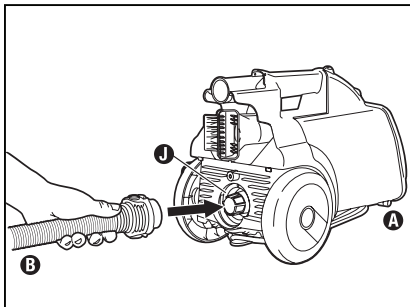

Fig. 9
**Step 2:** Detach hose (B) from front of canister (A) and attach to the blower port (A) on the back side of the canister (Fig. 9).